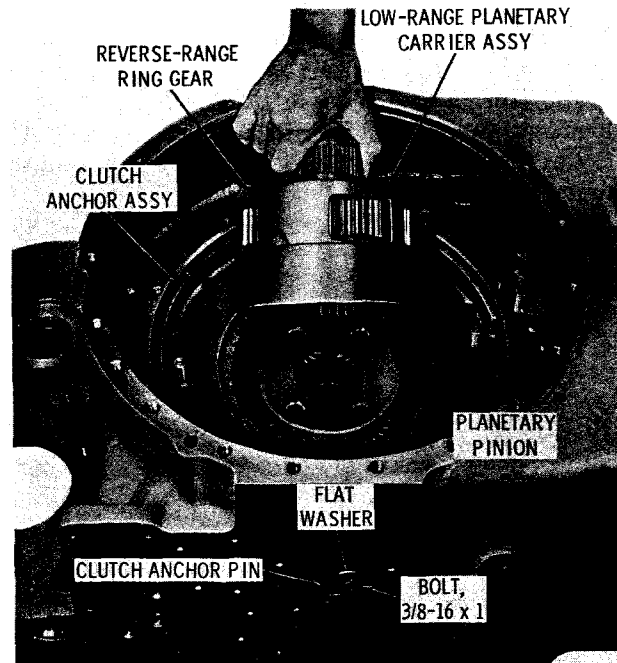

Fig. 7-15. Installing low-range planetary carrier assembly and reverse-range ring gear
(5) Push the clutch anchor pin into the slot in the reverse-and-low-range clutch anchor assembly (fig. 7-15). Temporarily install a 3/8-16 x 1-inch bolt and a flat washer to retain the anchor pin during subsequent assembly operations.
(2) Install the assembled reverse-range ring gear and low-range planetary carrier, engaging the reverse-range ring gear teeth with the planetary pinion teeth (fig. 7-15).